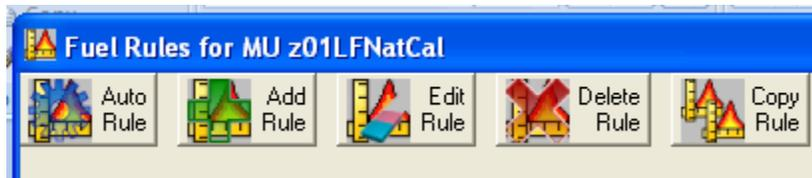

Figure 7-27. Rule input options
ToFuΔ users can select from the following **Rule** input options: **Auto Rule**, **Add Rule**, **Edit Rule**, **Delete Rule**, and **Copy Rule** (fig. 7-27).
- Rule inputs are selected by clicking one of the icons at the top left of the **Fuel Rules** dialog box (fig. 7-27).
- To use the Add Rule option, click the **Add Rule** icon (fig. 7-27).
**Example:** A rule set for the Cottonwood Bosque EVT has the range of cover and height worked out in logical fashion for the EVT, but you know that under dry conditions, crowning is likely in this vegetation type. Currently the rule set has 8/TL3 and a canopy guide (CG) of 2 which will just use canopy to adjust shading and wind reduction. In this situation to help model crowning, highlight the rule set for 20-54% 0-max height. Use the drop-down box for FBFM13 to select FM10, hit the drop-down arrow for FBFM40 to select TL8-188 and use the drop-down menu for **Canopy Fuel Guide (CG)** to select "1." Save your edits by clicking on the **Save Rule** icon. Bosque rule sets: 10-19%, 0-max, 5/GS2; 20-59%, 0-max, 8/TL3.
- To use the Edit Rule option, click the **Edit Rule** icon on the Fuel Rules dialog box (fig. 7-27).